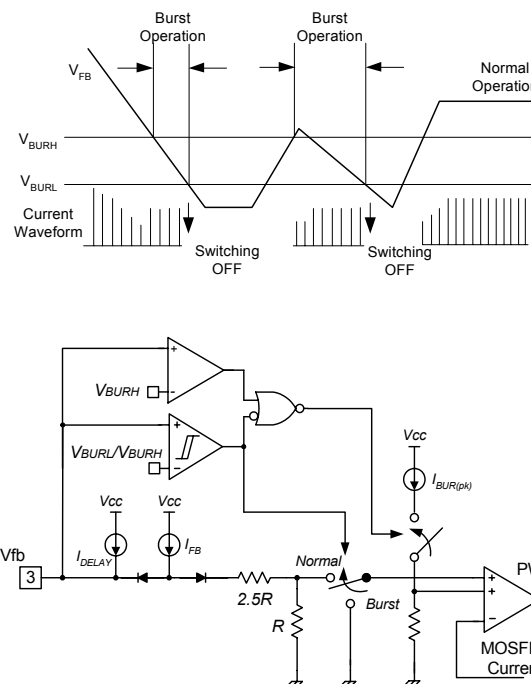

Figure 9. Burst Operation Function
6. Burst Operation : In order to minimize power dissipation in standby mode, the FPS enters burst mode operation. As the load decreases, the feedback voltage decreases. As shown in Figure 9, the device automatically enters burst mode when the feedback voltage drops below V_{BURH} (500mV). Switching still continues but the current limit is set to a fixed limit internally to minimize flux density in the transformer. The fixed current limit is larger than that defined by $V_{FB} = V_{BURH}$ and therefore, V_{FB} is driven down further. Switching continues until the feedback voltage drops below V_{BURL} (350mV). At this point switching stops and the output voltages start to drop at a rate dependent on the standby current load. This causes the feedback voltage to rise. Once it passes V_{BURH} (500mV), switching resumes. The feedback voltage then falls and the process repeats. Burst mode operation alternately enables and disables switching of the power Sense FET thereby reducing switching loss in Standby mode.